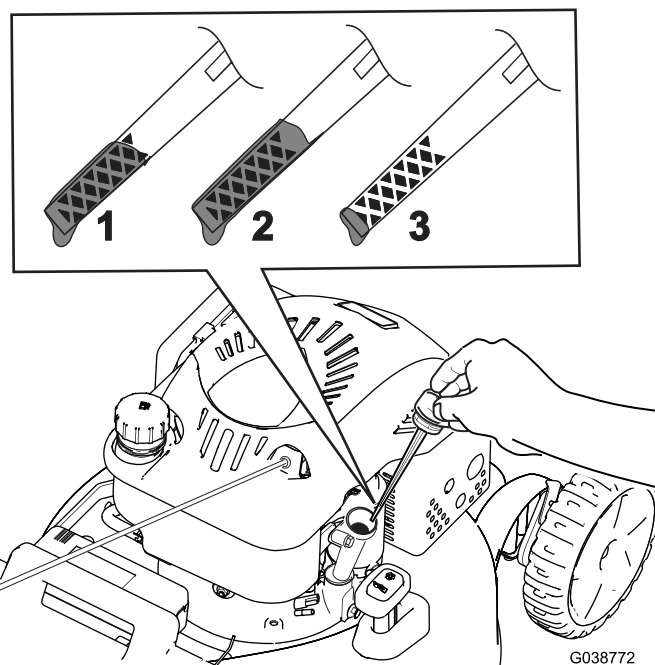

Figure 13
2. Remove the dipstick by rotating the cap counterclockwise and pulling it out (Figure 13).